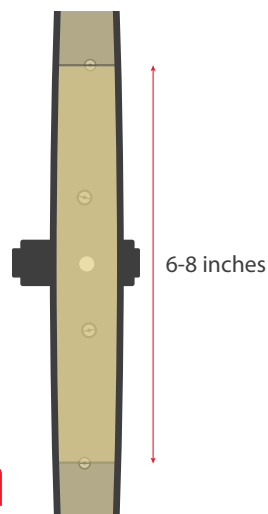

FIG. 3
- 5 Once you reach the beginning of the tape, pull the tape with correct tension another 8 inches past the starting point. Again, press the tape down in small sections to adhere the tape. This will create two layers of tape that will cover 6-8 inches past the starting point. (Figure 3).